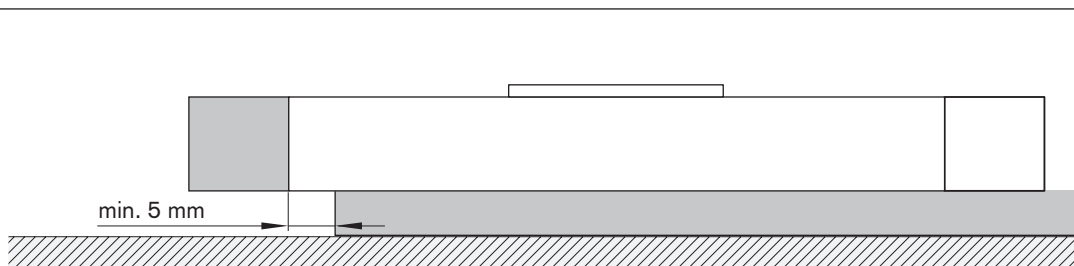

Fig. 6: Minimum distance to the end plates / maximum permissible deflection
- ▶ When mounting to the frame, keep a minimum distance of 5 mm from the end plates ➡ ☒ Fig.6.